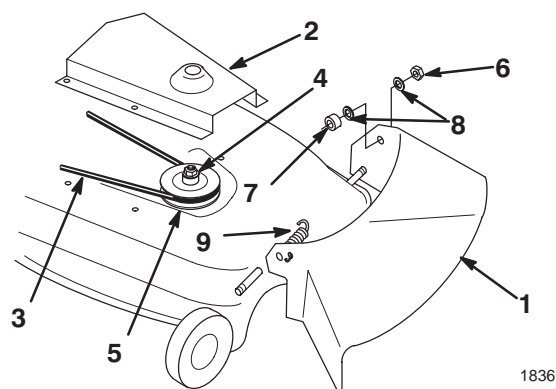

Figure 37
1. Install the discharge chute onto the mower with saved hardware (Fig. 37).
2. Install the belt cover onto the mower (Fig. 37).